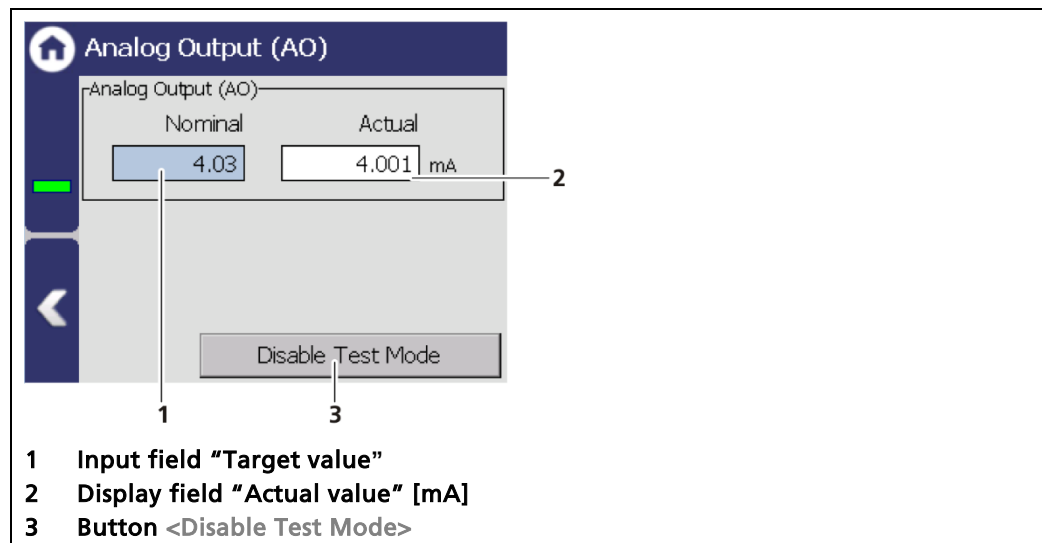

Fig. 127 Analog output simulation
1. Click on the input field (Fig. 127, item 1) and enter the target value for the simulation.
3. Click on the <Disable Test Mode> button (Fig. 127, item 3) to stop the simulation.